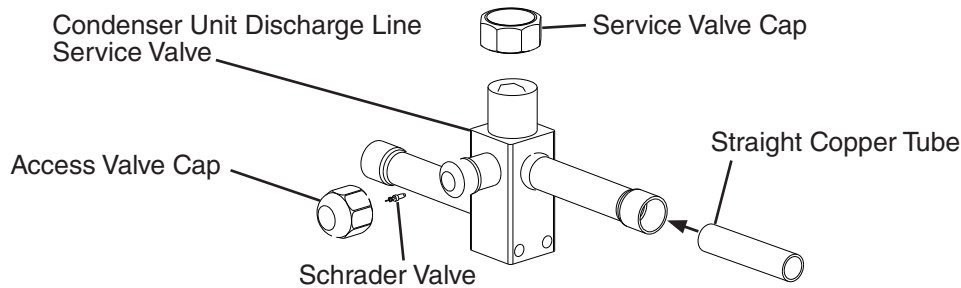

Fig. 8
- a) Remove the Schrader valve cores from the icemaker service valves. Remove the straight copper tube from the icemaker accessory bag and place it in the icemaker liquid line service valve. See Fig. 8. Next, place the liquid line copper tube into the straight copper tube.
- a) Remove the Schrader valve cores from the condenser unit service valves. Remove the straight copper tube from the accessory bag and place it in the condenser unit liquid line service valve. See Fig. 8. Next, place the liquid line copper tube into the straight copper tube.